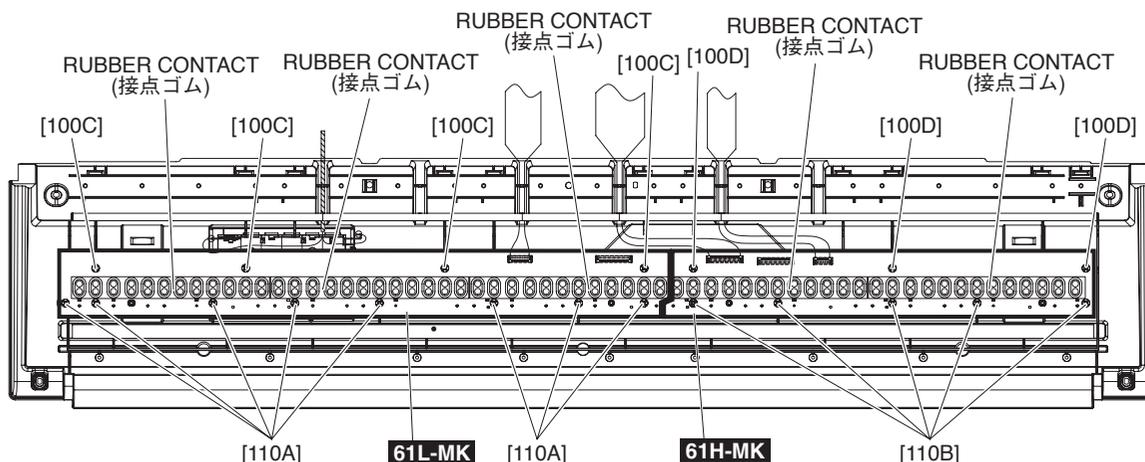

Fig.6 (図6)
8-4-2 Remove the rubber contacts. (Photo 2, Fig.6)
8-4-2 それぞれの接点ゴムを外します。(写真 2、図 6)
8-5-2 Remove the four (4) screws marked [100C] and eight (8) screws marked [110A]. The circuit board 61L-MK can then be removed. (Fig.6)
8-6-2 Remove the three (3) screws marked [100D] and five (5) screws marked [110B]. The circuit board 61H-MK can then be removed. (Fig.6)
8-5-2 [100C] のネジ 4 本と [110A] のネジ 8 本を外して、シート 61L を外します。(図 6)
8-6-2 [100D] のネジ 3 本と [110B] のネジ 5 本を外して、シート 61H を外します。(図 6)